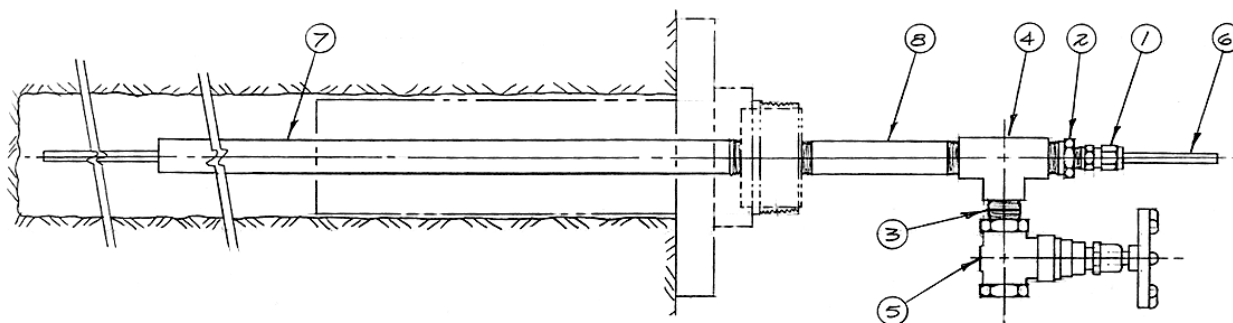

Figure 8 - Upwards Installation Assembly
- 4) Referring to the numbers in Figure 8 as a guide, complete the following: Screw the down-hole grout pipe(7) into the back of the Tube Mount. Screw the external grout pipe(8) into the front of the Tube Mount. Thread the vent tube(6) through these two pipes and tape to the deepest borehole anchor so that it protrudes beyond the anchor by a distance of about 30 centimeters. Now slide the Valve/Tee assembly, (1-5), over the vent tube and screw onto the external grout tube. Tighten the Swagelok fitting, (1), onto the vent tube according to the instructions in Section 2.4.